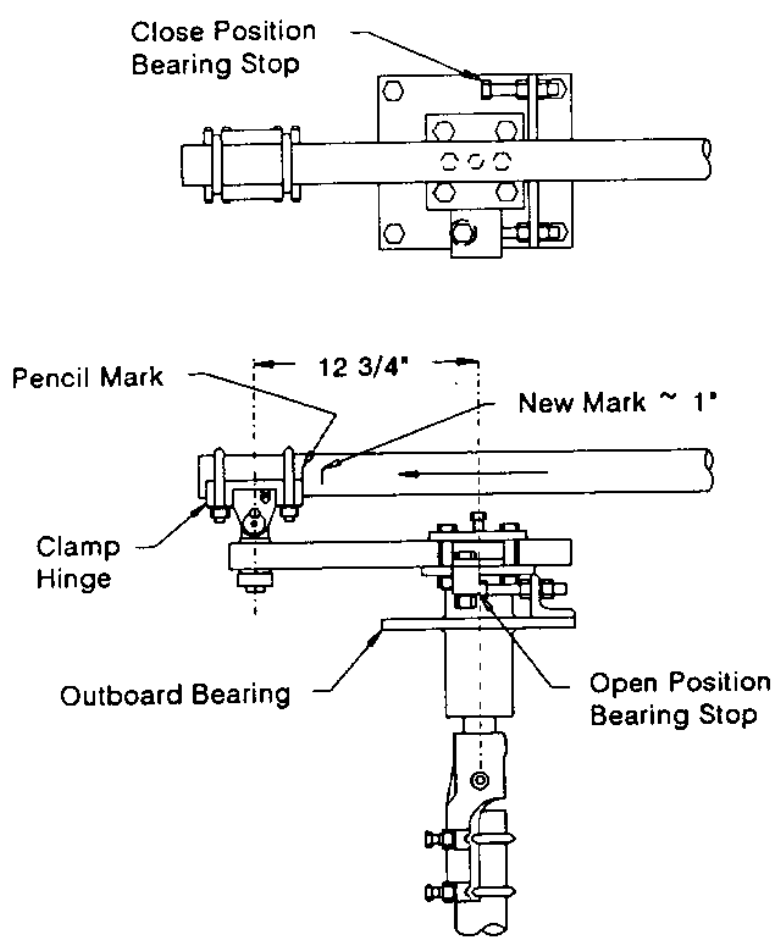

Figure 39 -- Outboard Bearing Lever Trial Radius
6. A trial radius of 12.75 inches has been set on the outboard bearing lever. This is the measurement shown in Figure 39. A longer radius length produces more rotation in both open and close directions while a shorter radius reduces the amount of rotation in both directions.
12. Disable shunt trip circuit and check incoming DC polarity. Refer to the electrical drawing furnished with the Circuit Switcher. Operate motor operator electrically to check for correct rotation. Run motor operator to open position as determined by open limit switch operation. In this position there should be about 1/8 inch clearance at the open position bearing stop (see Figure 39). Also, the open position limit switch should have been actuated as shown in Figure 17.